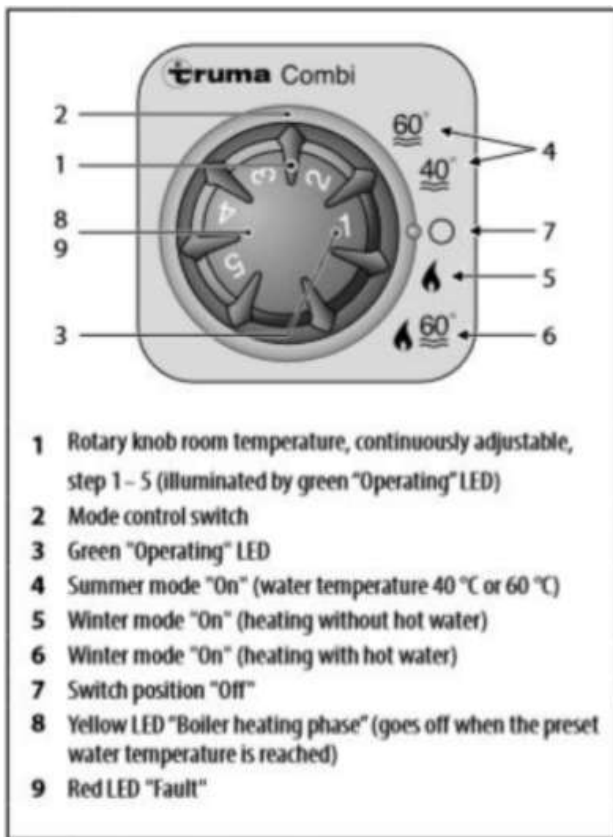

Fig. 7 – TRUMA control panel
Set the desired mode on rotary switch (Fig. 7, item 2) of the Trumatic control element as follows:
- Summer operation, position (Fig. 7, item 4) or
- Winter operation, position (Fig. 7, item 5/6)
Once one of the two modes is switched on, green indicator lamp (Fig. 7, item 3) behind the rotary knob goes on.
A continuously lit red indicator lamp (Fig. 7, item 9) indicates a closed gas bottle shut-off valve and/or appliance shut-off valve, interrupted air flow, air in the gas line or a faulty fuse. The fault is cleared by turning the appliance off and then back on again.
Set the rotary switch (Fig. 7, item 2) to the desired water temperature 40 °C or 60 °C (Fig. 7, item 4). Once the desired temperature has been reached, the burner shuts down and the yellow indicator lamp "Boiler warm-up phase" (Fig. 7, item 8) goes off. This function is only available in summer mode. The burner operates at the lowest burner setting.
1. Set the rotary switch (Fig. 7, item 2) to position (Fig. 7, item 6).
2. Turn the rotary knob (Fig. 78, item 1) to the desired thermostat setting 1 – 5 for the room temperature. Green indicator lamp "Operating" (Fig. 7, item 3) goes on and shows the room temperature selected. After attaining the room temperature selected, the burner switches to the lowest setting and the heats the water in the boiler to 60 °C.
Yellow indicator lamp "Boiler warm-up phase" (Fig. 7, item **8**) shows the heating phase and goes off when the water temperature has been attained.
1. Set the rotary switch (Fig. 7, item **2**) to position (Fig. 7, item **5**).
2. Turn the rotary knob (Fig. 7, item **1**) to the desired thermostat setting 1 – 5 for the room temperature. Green indicator lamp "Operating" (Fig. 7, item **3**) goes on and shows the room temperature selected. After attaining the room temperature selected, the heating switches off. When the boiler is filled, the water is heated automatically as well.